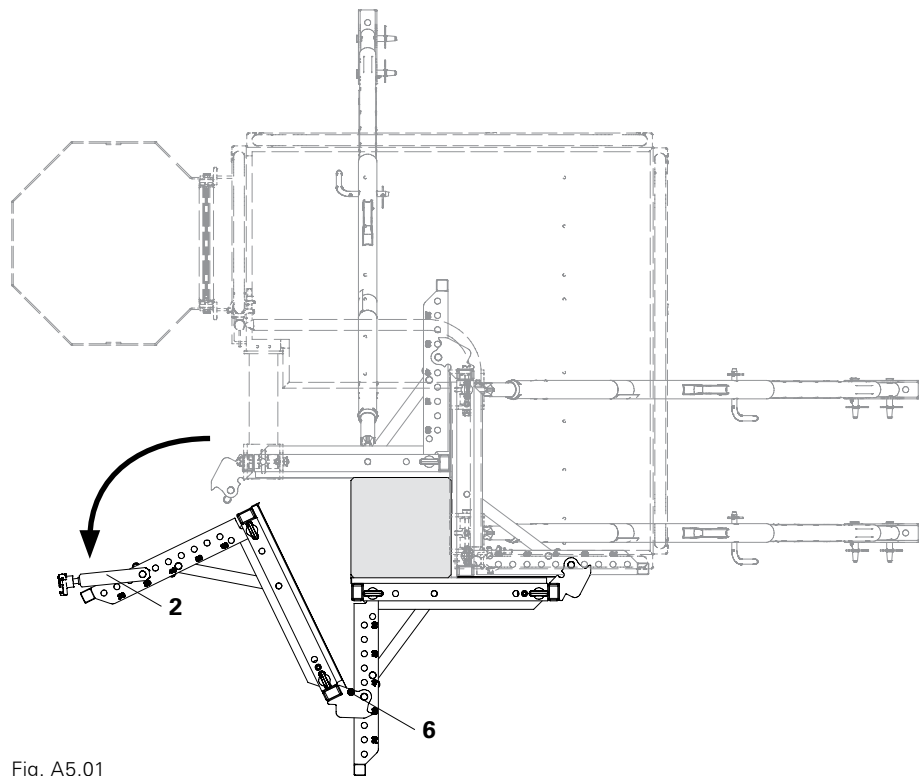

Fig. A5.01
1. Loosen QUATTRO QA Frame Spanner (2), remove locking pins  $\text{Ø } 20 \times 140$  (6), fold up element with the QUATTRO QA Frame Spanner and stabilise the opened position by means of the locking pins  $\text{Ø } 20 \times 140$  (6) .(Fig. A5.01)